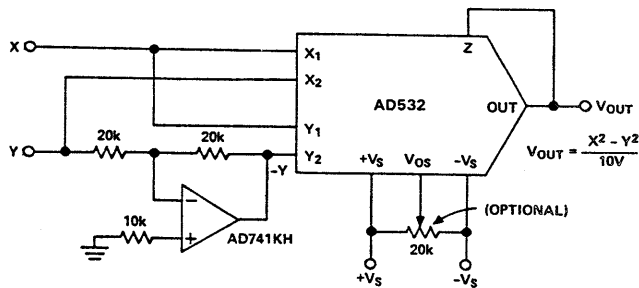

Figure 15. Differential of Squares Connection
The differential input capability of the AD532 allows for the algebraic solution of several interesting functions, such as the difference of squares,  $X^2 - Y^2 / 10V$ . As shown in Figure 15, the AD532 is configured in the square mode, with a simple unity gain inverter connected between one of the signal inputs (Y) and one of the inverting input terminals ( $-Y_{in}$ ) of the multiplier. The inverter should use precision (0.1%) resistors or be otherwise trimmed for unity gain for best accuracy.